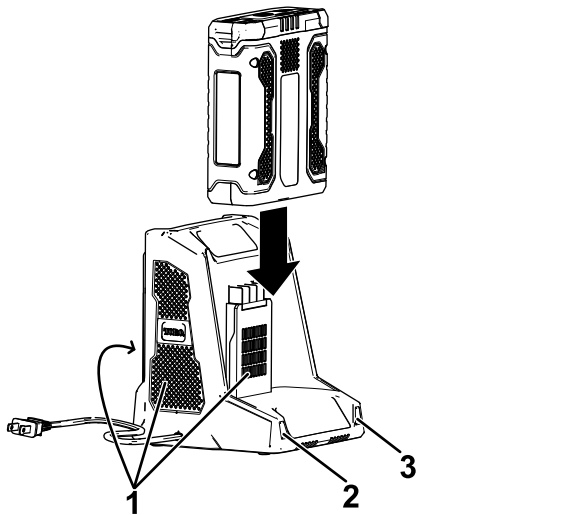

Figure 4
5. Slide the battery pack into the charger until it is fully seated (Figure 4).